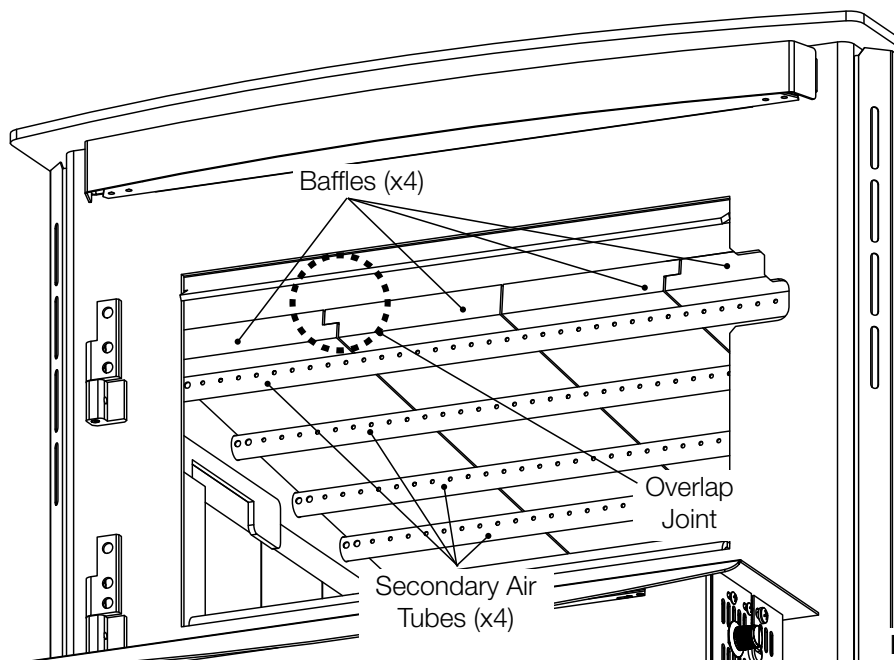

Fig. 4-6
- Carefully pivot the four "E" fibre baffles up onto the secondary air tubes as illustrated (**Fig. 4-6**). Ensure that the baffles are pushed all the way to the rear of the firebox, leaving a minimum of a 1 inch gap along the front. This will allow the flue gases to escape the firebox. Ensure overlap joint is tight.